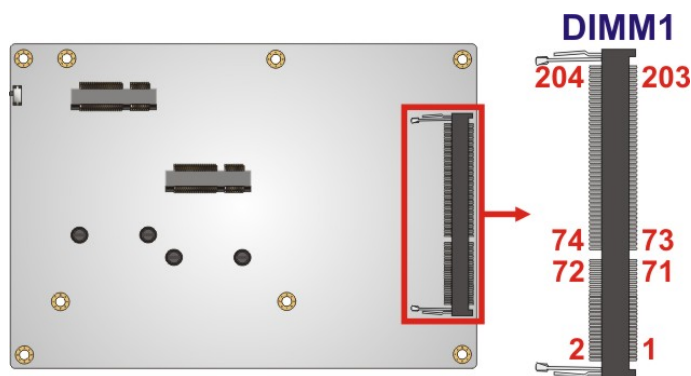

Figure 3-17: Memory Card Slot Location
**CN Location:** See Figure 3-17